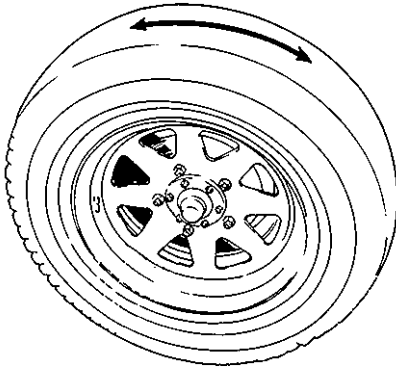

Fig. 17-35
Also, the check instructed under (2) of FRONT WHEEL BEARING must be carried out here. (Refer to Fig. 17-35)